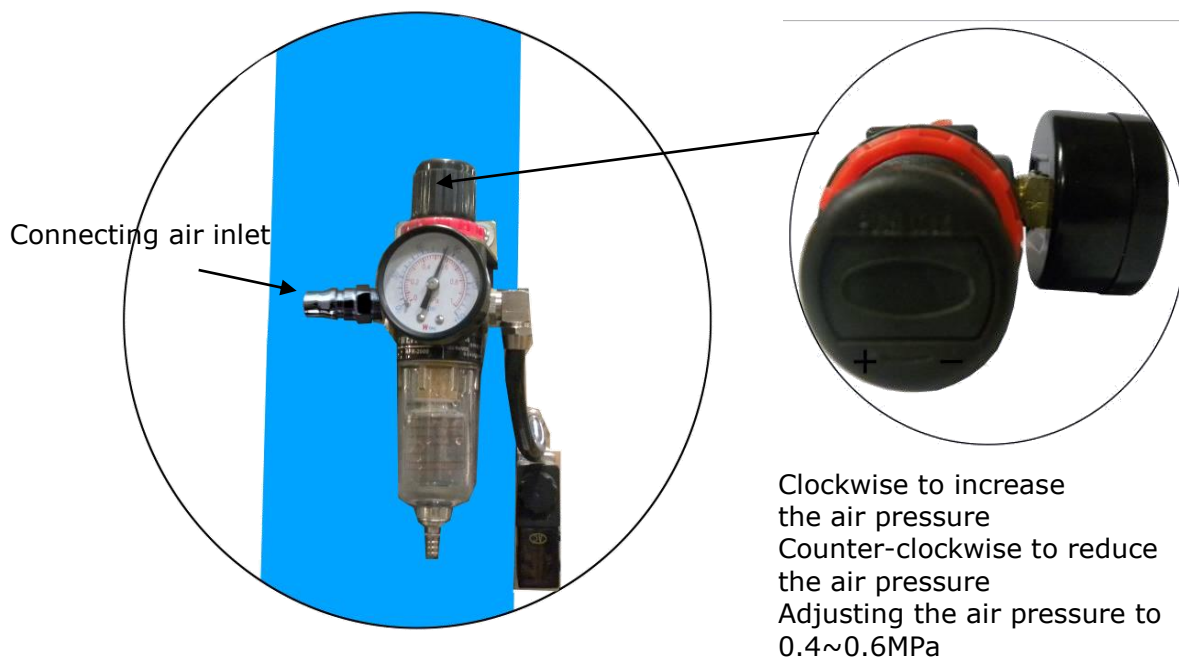

Fig. 29
5. Connecting air inlet (Air supply pressure $5\text{kg/cm}^2 - 8\text{kg/cm}^2$), adjusting the air pressure of Oil-water separator to $0.4 - 0.6\text{MPa}$ (**See Fig. 29**).